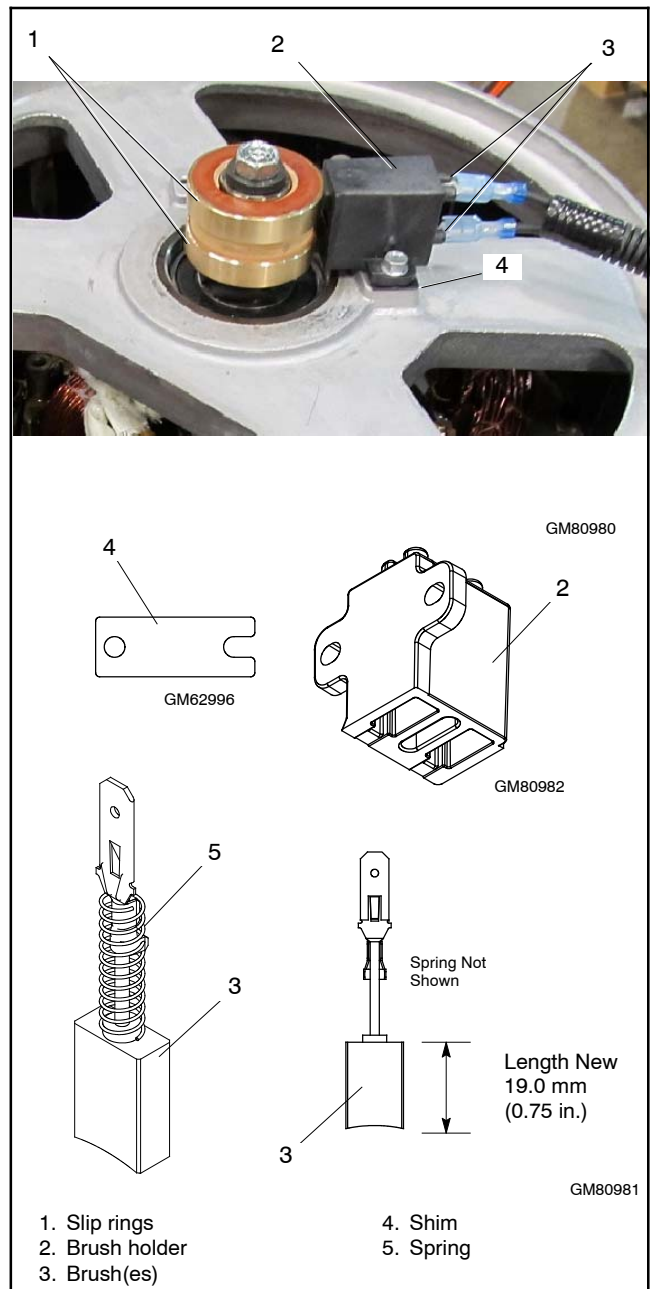

Figure 6-18 Brush Assembly
- c. Verify that the brushes are centered on the slip rings. If required, insert spacers between the mounting surface and brush holder to center the brushes on the slip rings. See Figure 6-18. See Section 5.7, Brushes, for more information.